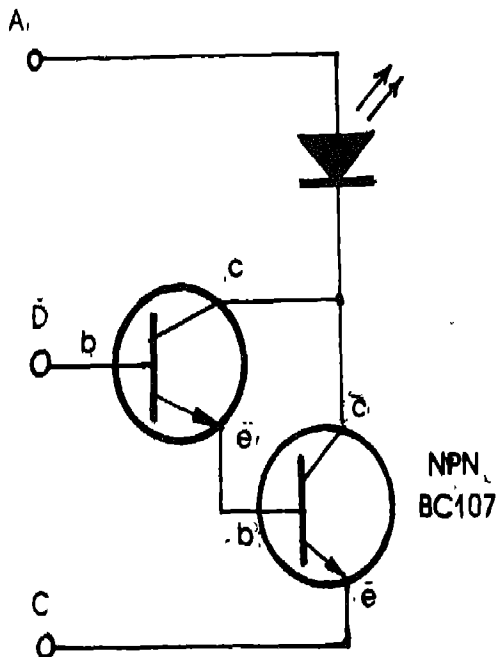

Fig. 10.1
1. Connect the circuit as shown in Fig. 10.1.